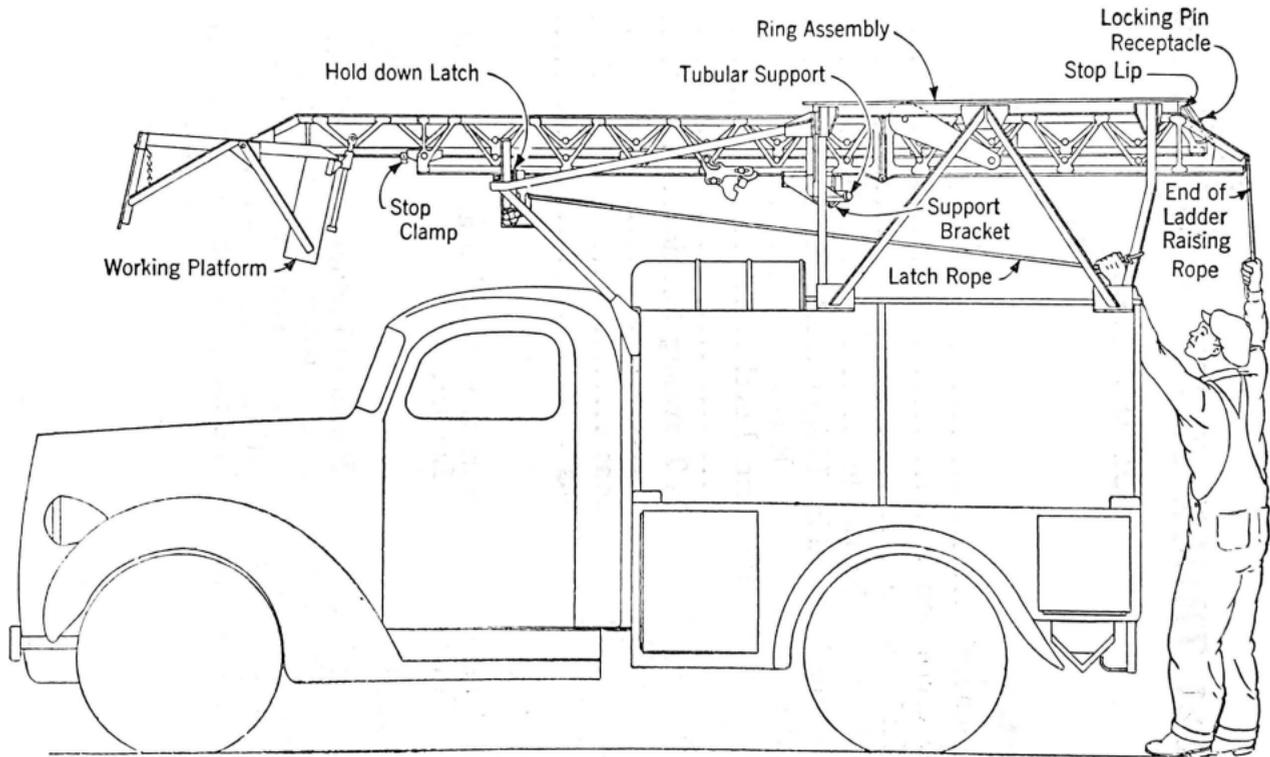
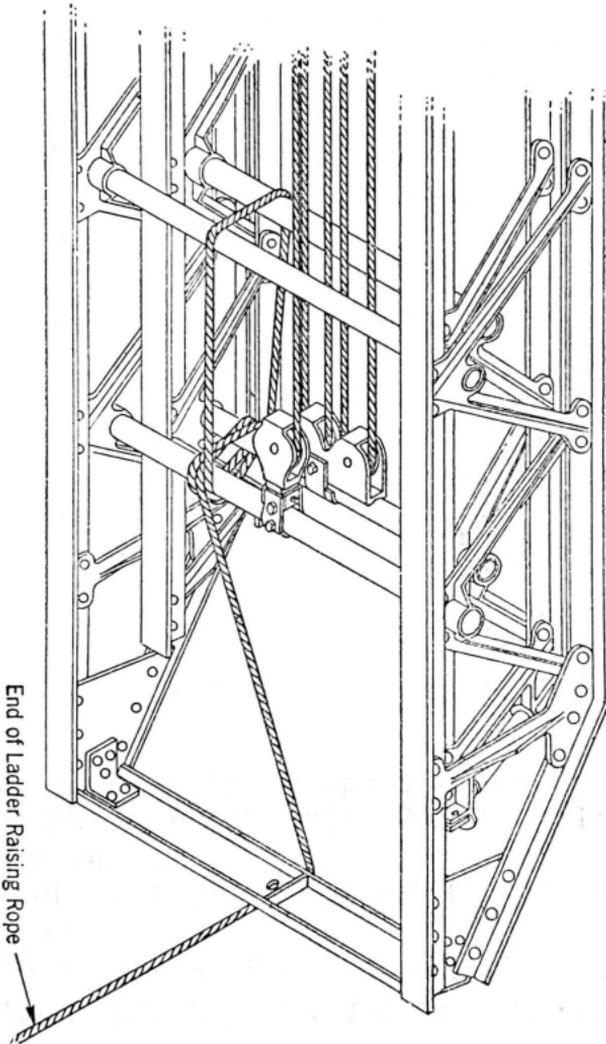

Fig. 1
Fig. 11
2.01 The H-21 Truck Platform Ladder is a special extension ladder arranged so that when not in use it can be conveniently carried overhead on a cable and line maintenance truck equipped with an H-21 Ring Assembly, as shown in Fig. 1, thus leaving the interior of the body unobstructed.
assembly. This can be most conveniently done when standing on the ground at the rear of the truck if the pull cord for the hold-down latch is carried to an accessible point at the rear of the truck and the end of the ladder raising rope is permitted to hang from the bottom end of the ladder within reach. See Fig. 1.
9.04 Lower the upper ladder section so that its rung hooks are completely engaged with the third rung on the lower ladder section and bind the two ladder sections together by wrapping and tying the remainder of the rope around the first and second rungs of both ladder sections. Pass the end of the rope over the channel base as shown in Fig. 11 and allow it to hang down for convenience in erecting the ladder as shown in Fig. 1.